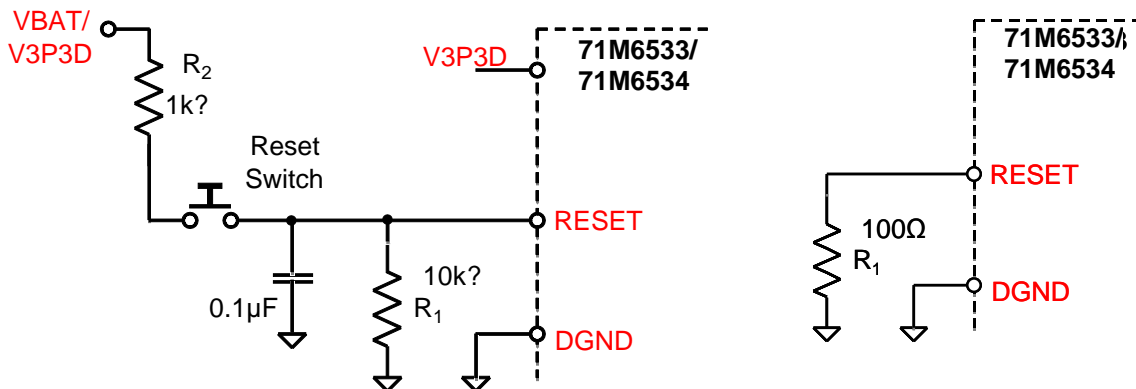

Figure 39: External Components for the RESET Pin: Push-Button (Left), Production Circuit (Right)
Even though a functional meter will not necessarily need a reset switch, it is useful to have a reset push-button for prototyping as shown in Figure 39, left side. The RESET signal may be sourced from V3P3SYS (functional in MISSION mode only), V3P3D (MISSION and BROWNOUT modes), or VBAT (all modes, if a battery is present), or from a combination of these sources, depending on the application.
For a production meter, the RESET pin should be protected by the by the external components shown in Figure 39, right side. R1 should be in the range of 100Ω and mounted as closely as possible to the IC.
- ✓ Since the 71M6533 and 71M6534 generates its own power-on reset, a reset button or circuitry, as shown in Figure 39, is only required for test units and prototypes.